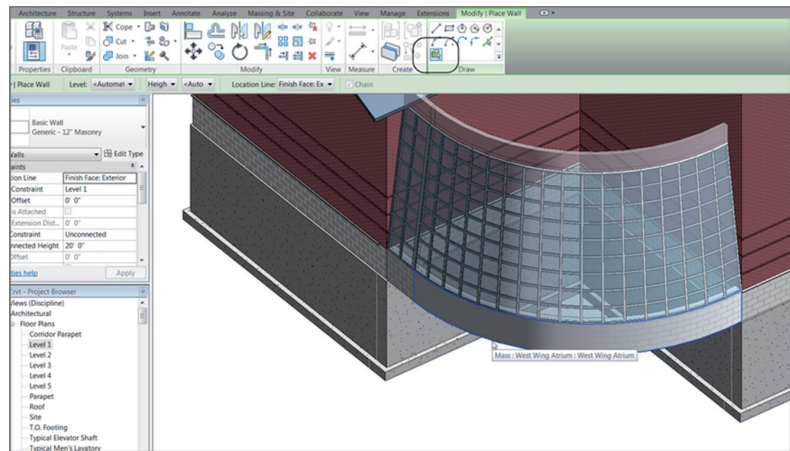

FIGURE BC1.52: Adding something on which to bear
4. On the Draw panel, click the Pick Faces button, as shown in Figure BC1.52.
6. Pick the bottom faces of the mass (see Figure BC1.52).